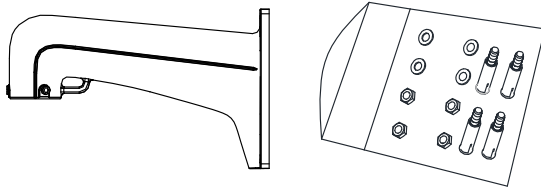

Figure 3-6 Bracket and Accessories
- The bracket in Figure 3-6 is the recommended bracket for this series of speed dome, and a pendant adapter is required if any other bracket is selected. The dimension of pendant adapter is $G1\frac{1}{2}$.
- The bracket in Figure 3-6 is the recommended bracket for this series of speed